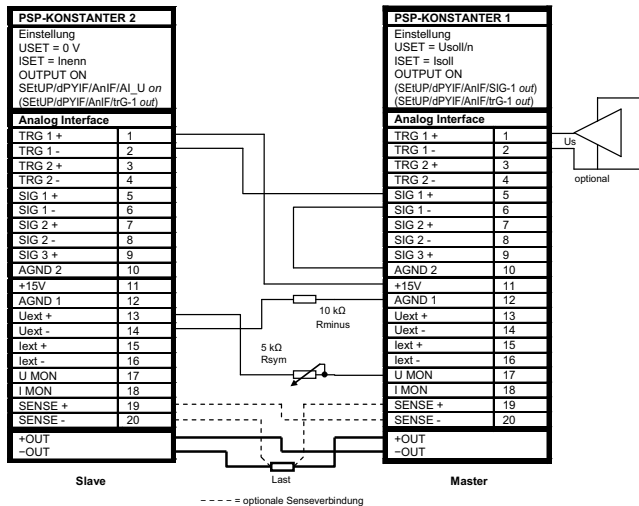

Figure 7.10.2 Wiring for Master-Slave Series Connection
- Connect master and slave devices as shown in figure 7.10.2.
- In order to assure that the slaves' OUTPUT ON status is activated along with the master's OUTPUT ON status via the signal output and trigger input circuit as shown in figure 7.10.2, "SETUP/dPYIF/AnIF/SIG-(x1) out" must be selected at the master and "SETUP/dPYIF/AnIF/trG-(x2) out" must be selected at the slaves, (x1) and (x2) in example 1. The master's OUTPUT ON status can be optionally controlled via the trigger input – setting at the master: "SETUP/dPYIF/AnIF/trG-(x3) out", (x3) in example 1.